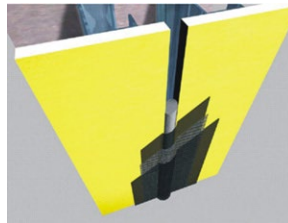

Fig. 15
- Using a brush or 3/4 in (19 mm) nap roller, apply a liberal coat of AquaFlash Liquid material to the backer rod and adjacent substrate surface to the width of the AquaFlash Mesh - Figure 15.